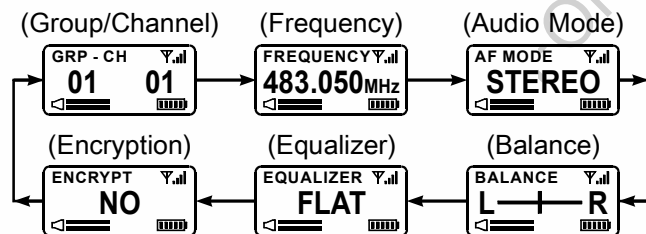

Fig. 8
- (A) Press the MODE button to select one of the six selections, Fig. 8.
- (B) Backlight dims in 5 seconds in each mode.